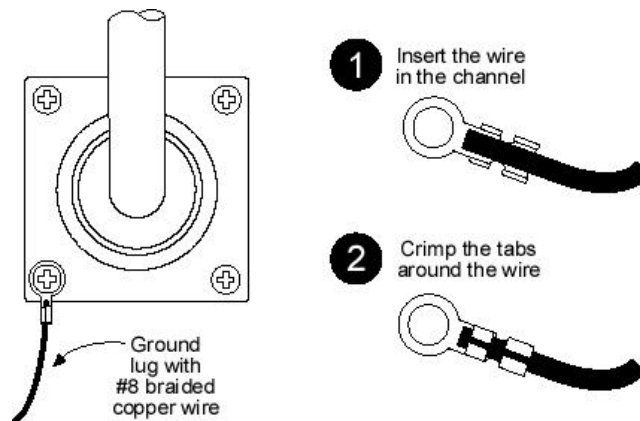

Figure 3-14. Mounting Pole with Ground Lug
6. Attach the grounding wire to the clamp on the grounding rod, reference Figure 3-14. If necessary, use wire staples to secure the grounding wire to the outside wall.